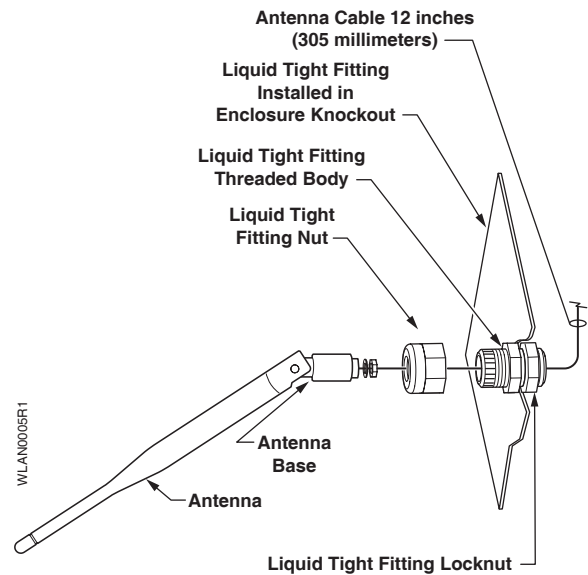

Figure 4. Remote Mount Antenna.
6. **For Remote Mount Antenna:** Route the antenna through the body of the liquid tight fitting (Figure 4). Hand-tighten the liquid tight fitting nut to secure the antenna in place.
Make certain the liquid tight fitting nut tightens on the antenna base (Figure 4) and not the antenna so that the antenna can be articulated.